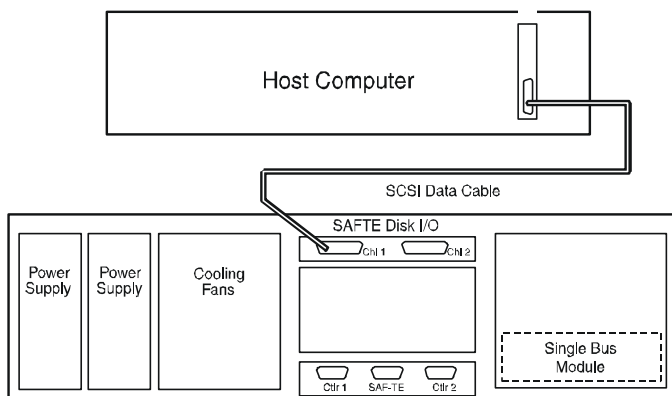
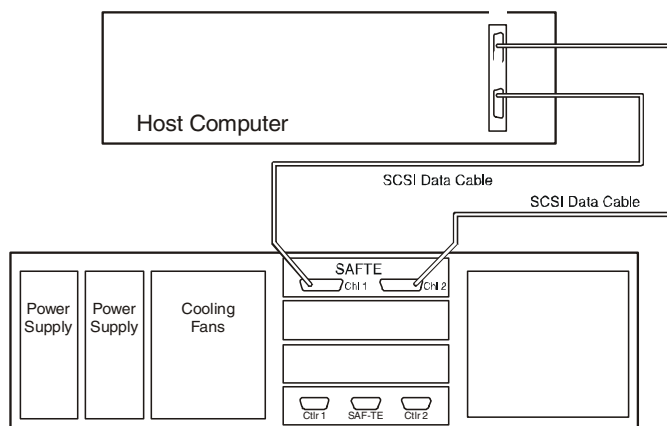

Figure 2-11 Host Cabling Diagram – JBOD, Single-Bus Mode (DuraStor 412R)
Figure 2-12 Host Cabling Diagram – JBOD Dual-Bus Mode (DuraStor 412R)
- 6 Connect the SCSI data cable from the host system HBA to the SAF-TE Disk I/O card Channel connector as shown in Figure 2-11 and Figure 2-12.